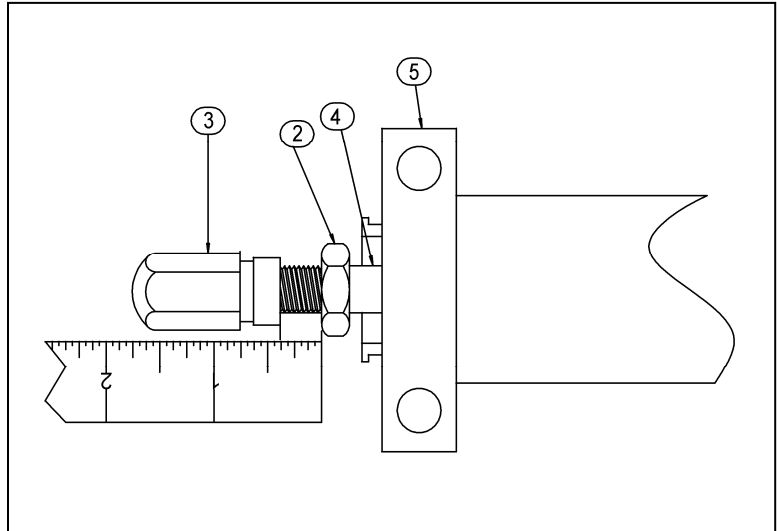

Figure 13: Set Acorn Adjusting Cap
10. Turn the Adjusting Nut counterclockwise until the distance between the Adjusting Nut and the Lock Nut is close to $\frac{3}{8}$ " (see Figure 13).